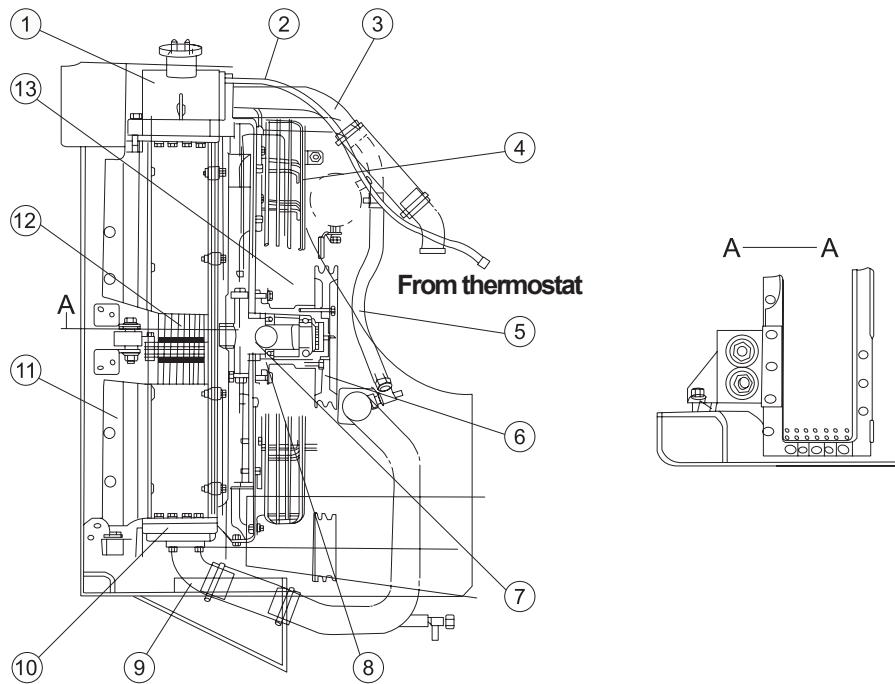

Figure 3-9
3.2.4 RADIATOR ASSEMBLY (SEE FIGURE 3-9)